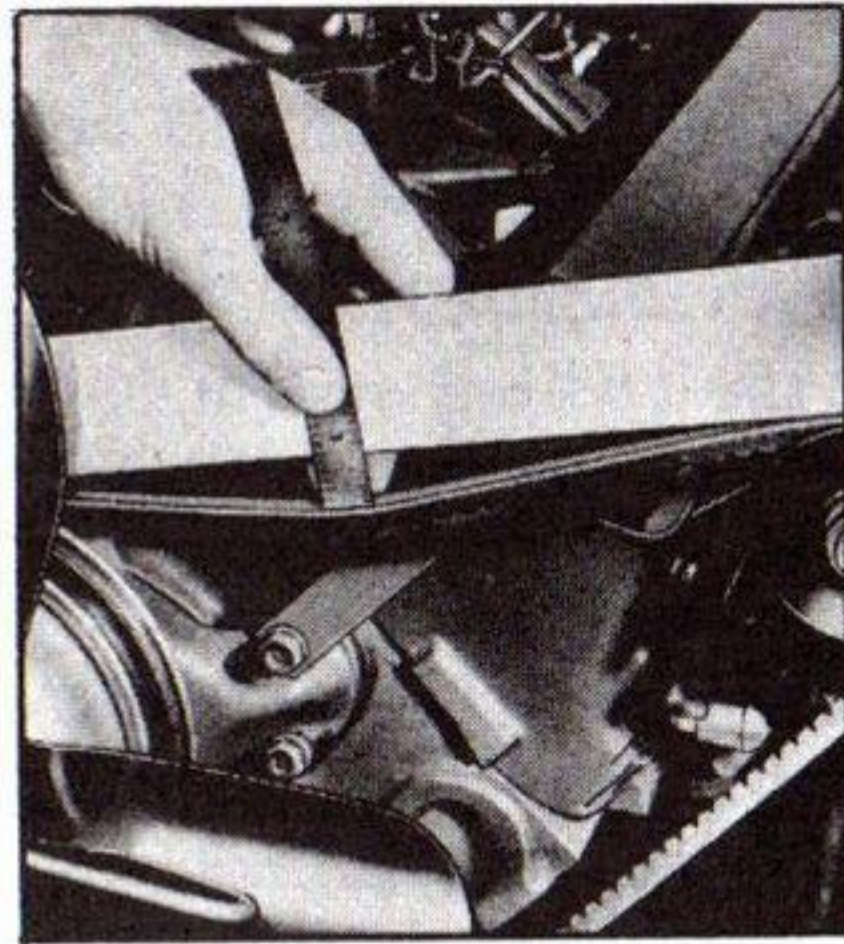

Fig. 43—Fan Belt Adjustment
2. Pull generator away from engine until desired belt tension is obtained. With correct adjustment a light pressure on the belt at a point midway between pulleys should cause a $\frac{7}{16}$ " to $\frac{1}{2}$ " deflection (fig. 43).